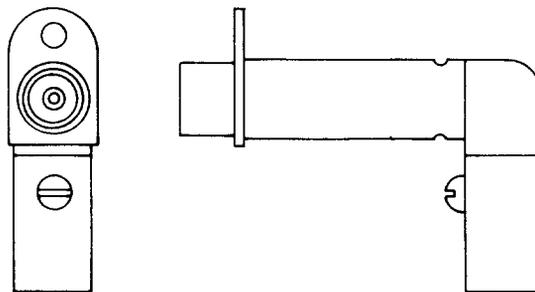

Fig. 15—565A or B Jack
**2.15 565A and B:** These right angle coaxial-type jacks (Fig. 15) are designed to be used with a 440A, 441A, and similar size plugs.